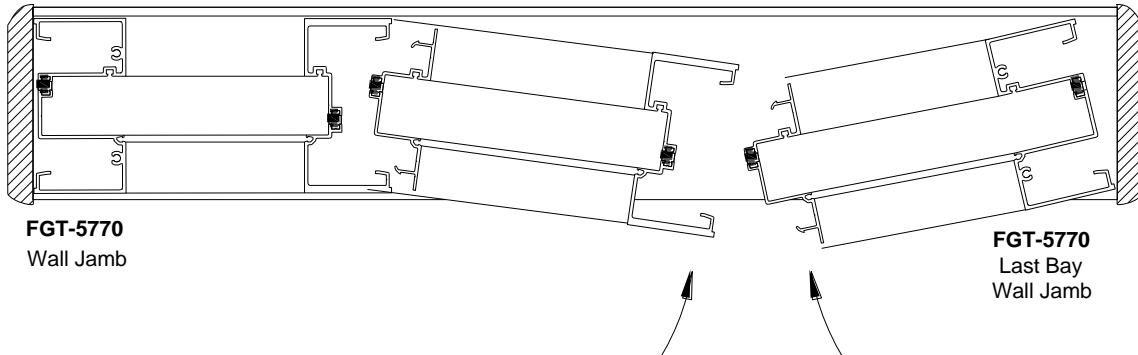

Figure 15: Panel Installation
- 11.1 Install assembled frame panels into opening starting at either Jamb and continue working toward the opposite Jamb until the last frame panel is installed. Reference installation illustrations shown in *Figure 15*. Use option A or B as required.